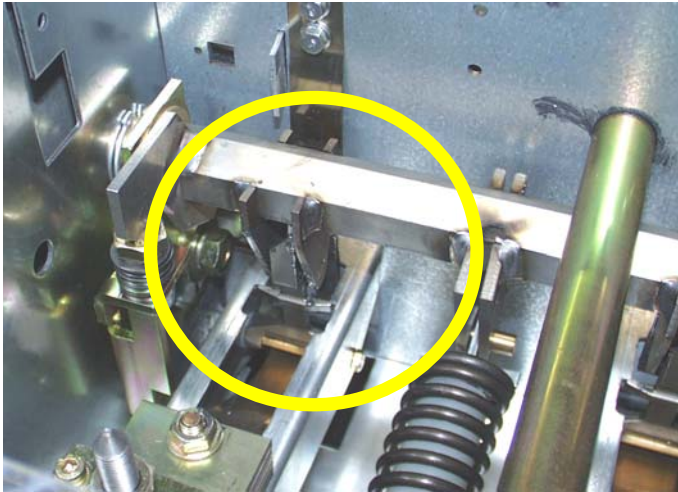

Fig. 3 -
8. Switch panel ON and OFF three times. Check and confirm whether that all three phase contacts are closed in ON position. In this ON position all three pawls must be positioned under the main shaft. (see figure 3)